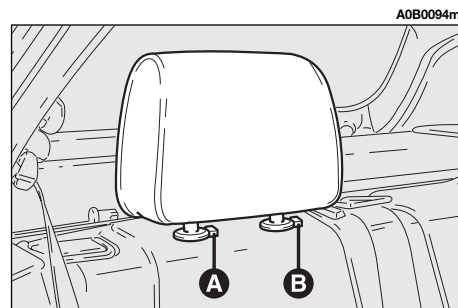
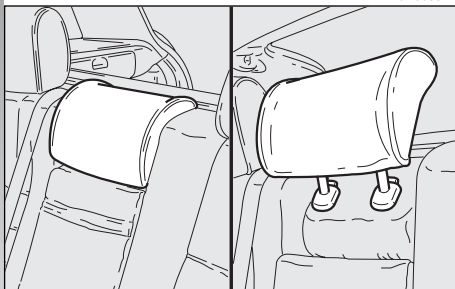

fig. 5
fig. 6
The car is fitted with two headrests for the side seats (**fig. 5**). On request for versions/markets where applicable, the car may also be fitted with a third headrest for the central seat (**fig. 6**).
- Press the buttons (**A** and **B**-fig. 5) at the same time and remove the headrests.
- To refit the headrests keep the buttons pressed (**A** and **B**-fig. 5) and insert them completely.